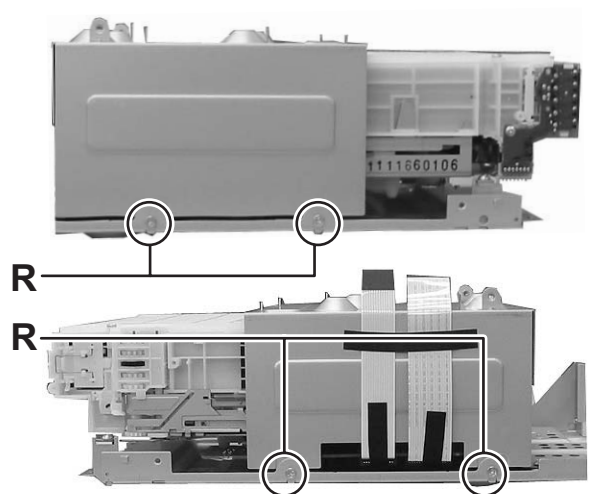

Fig.17
3.1.14 Removing the DVD changer mechanism assembly (Fig.17 to 19)
(See Fig.17)